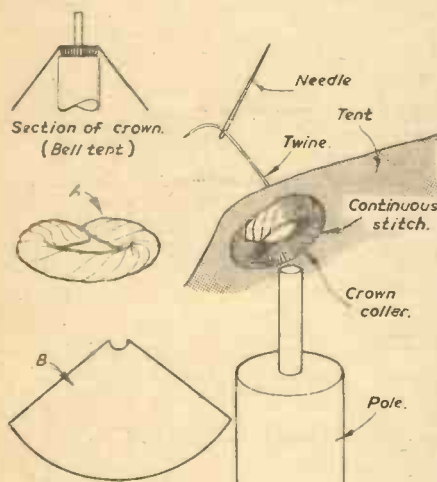

Fig. 1.—Repairing the crown.
less diameter than the pole which is sewn under the fabric at the location where the spike on top of the pole passes through—see Fig. 1. Thickness of the cord depends entirely on the size of the tent, bell tents having quite a heavy ring while in light-weight equipment the collar may be little more than string.
A new collar may of course be needed, if so make it as shown at (A) in Fig. 1 by cutting the cord to the right length,